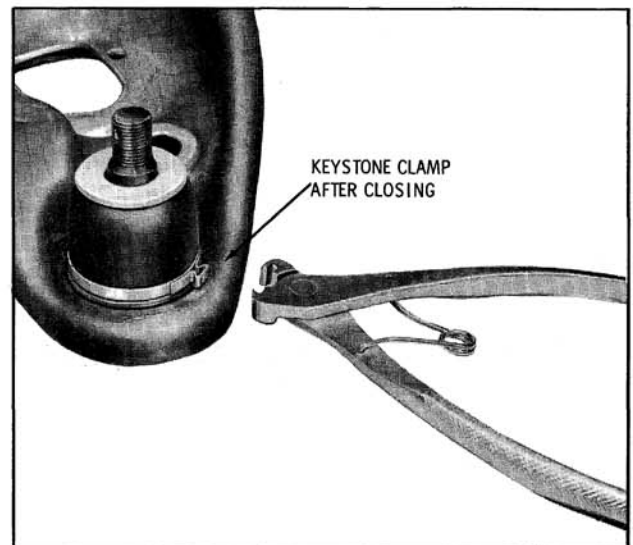

Fig. 9-127 Installing Ball Joint Seal
2. Install new ball joint seal and retainer as shown in Fig. 9-126 and Fig. 9-127.